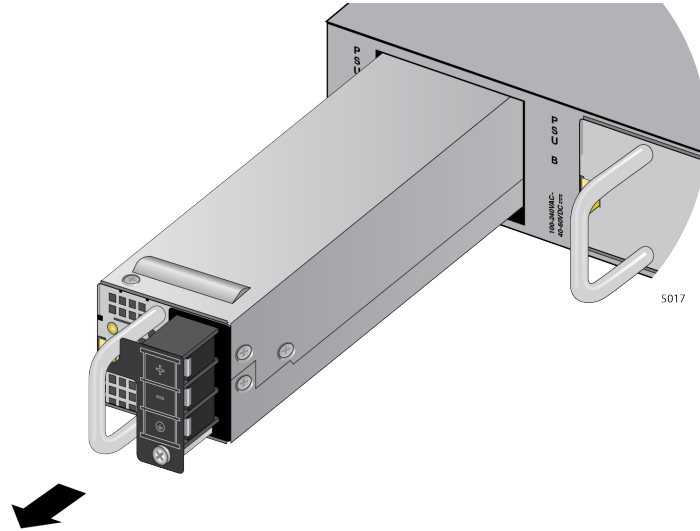

Figure 152. Front Panel of the PWR600 DC Power Supply
7. Carefully slide the power supply from the switch. Refer to Figure 152 on page 254.